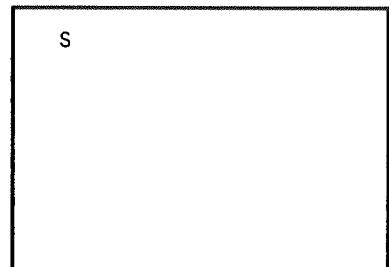

Fig. 1
(1) HOW TO ENTER THE SERVICE MENU
- ① Press MENU key and CONTRAST key simultaneously.
- ② The letter "S" appears at the upper left of the screen.(Fig.1)
- ③ Press MENU key and PHASE key simultaneously.